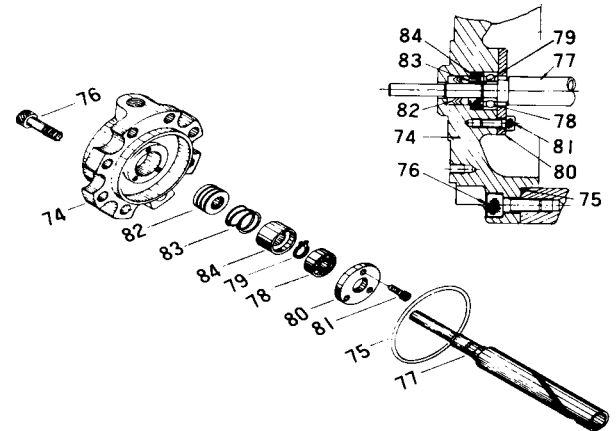

Fig. 90 Exploded View of Unloader Cover (74)
When the shaft seal portion of the indicator cylinder cam (77) has been disassembled, assembly work is carried out according to Fig.90.
- a) Fit the ball bearing (78) on the cylinder cam shaft. When pushing the bearing onto the shaft, apply pressure on the inner race of the bearing only, otherwise the bearing may be damaged. Push the bearing onto the stepped portion of the cylinder cam and fix with the stop ring (79).
- b) Apply a generous coating of oil to the V-ring (82) and fit the V-ring on the cover side, positioning the top of the "V" of the ring to face the inside and the bottom of the "V" to face the outside.
- c) Fit the spring (83) and the spring retainer (84) and mount the shaft of the cylinder cam assembled in a) above on the V-ring (82). Fasten the bearing (78) with the bearing gland (80).
- e) Position the unloader slide valve (54) in the no-load position (piston at the innermost point) and push in the cover while mating the groove on the cylinder cam with the pin on the push rod (67).
Fasten the screws (76) with the outlet of the unloader piston hydraulic piping facing up (ref. Fig.90).